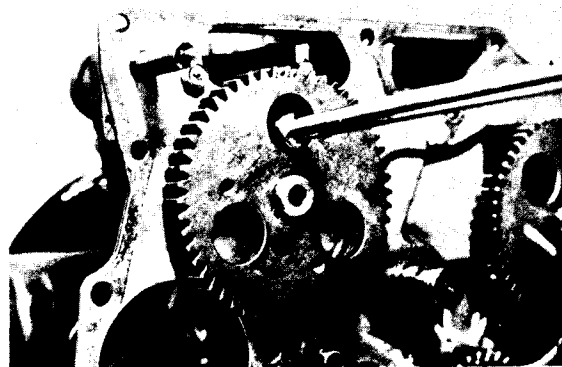

Figure 78
- C. Remove the stopper bolt (Fig. 78).